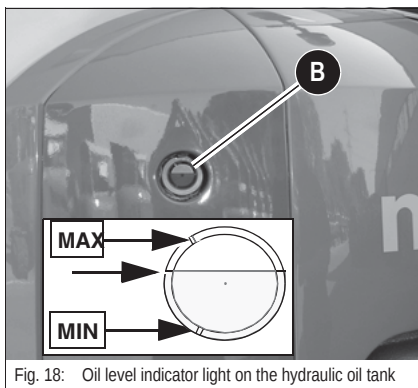

Fig. 18: Oil level indicator light on the hydraulic oil tank
- The oil level must be about 1 cm (3/8") over the center, between positions **MIN** and **MAX**, as shown by the arrows in fig. 18.